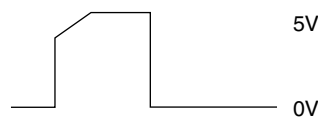

Figure B-3-2
• Yes Is RST signal of Q3 as shown in Figure B-3-2?